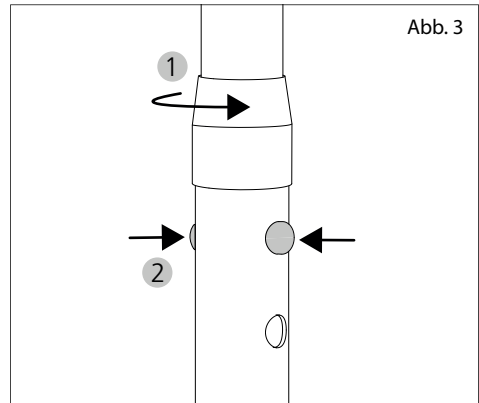

Abb. 3
1. Loosen the bushing (1, Fig. 3).
2. Press in both spring pins and twist the push handle round very slightly so that it is free to move (2, Fig. 3).